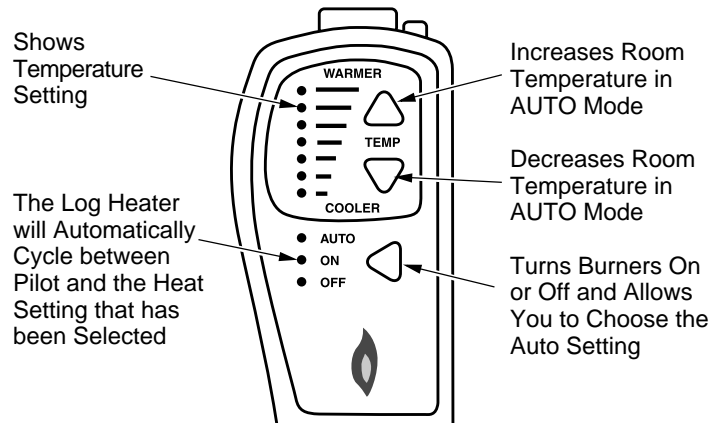

Figure 58 - Hand-Held Thermostat Remote Control Unit Selections (CGHRCTA Only)
- 2b. Press the AUTO/ON/OFF button on the hand-held remote control (see Figure 58). The lights to the left of the button will show AUTO, ON, or OFF.